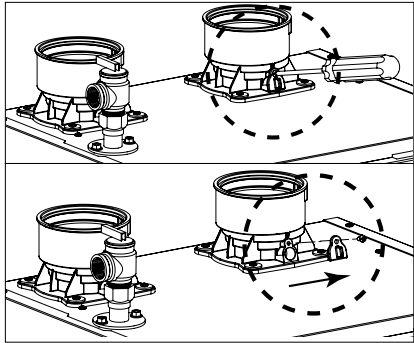

Figure 70 - Combustion Test Port
5. Reinstall the combustion test port - see Figure 70.